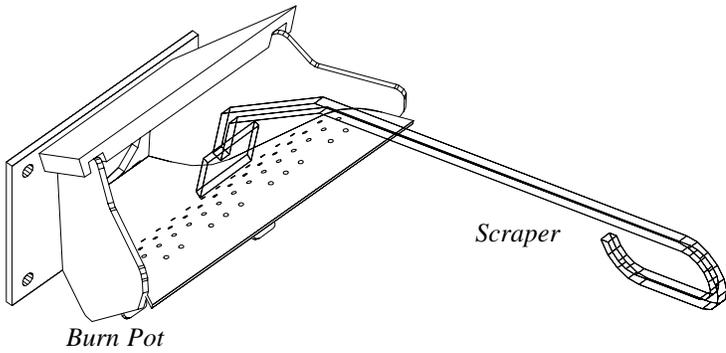

Fig. 14
- \* Clean burn pot (scrape carbon loose with scraper), fig. 14. If the fire is pushing out more in the middle of the burnpot than before or pushing partially burned pellets off the edge, these are indications that the burnpot needs cleaned.